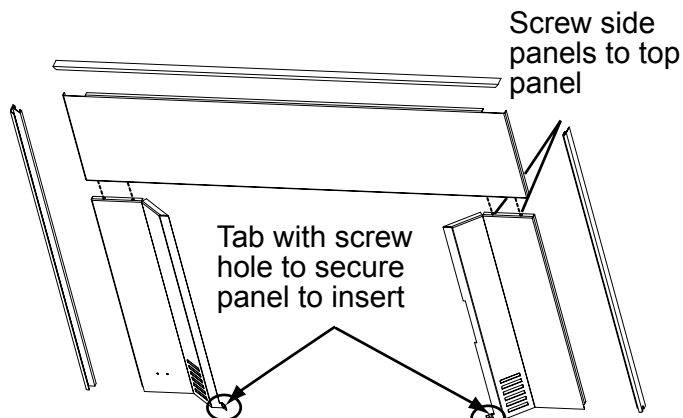

Figure 13A
3. Secure panel set together with screws provided. **See Figure 13A**
6. Secure panel set to insert. **See Figure 13A.**